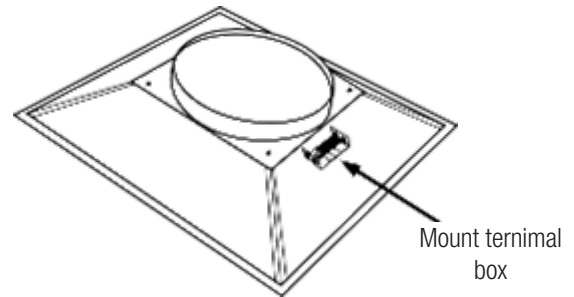

Fig. 3
4. Position the terminal box over the 5/16in hole on the top of the backpan (see Figure 3).